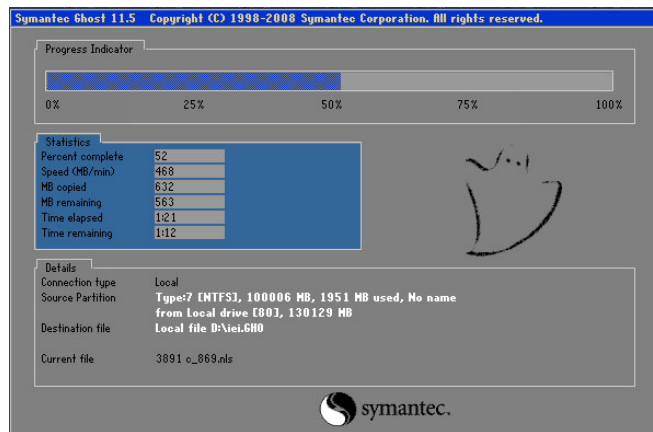

Figure A-28: Image Creation Complete
Step 8: The Symantec Ghost starts to create the factory default image (**Figure A-28**).